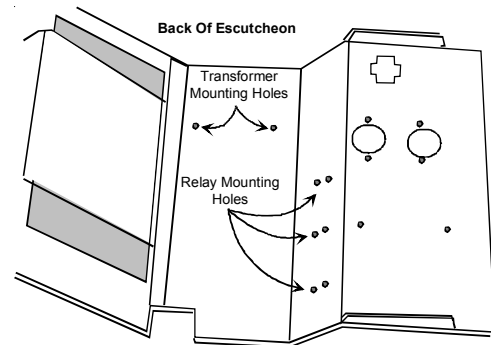

Figure 11
19. Using two #8 screws that are provided, screw the transformer to the control panel in the transformer mounting holes provided in the panel (Figure 11).
20. Mount the relay in one of the three relay mounting holes in the control panel making sure that the threaded stud is in the smaller hole and the metal tab is in the adjacent larger hole. Screw the provided nut onto the threaded stud from the opposite side of the control panel (Figure 11).